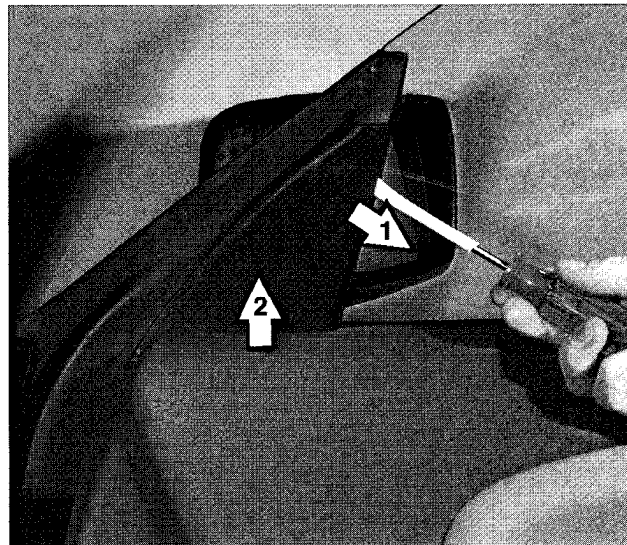

Fig. 4. Pry plastic trim in direction of **arrow 1**, then lift off in direction of **arrow 2**.
1. Remove triangular trim plate by prying and lifting gently from door frame. See Fig. 4. Unhook harness splice connector from base of trim plate.